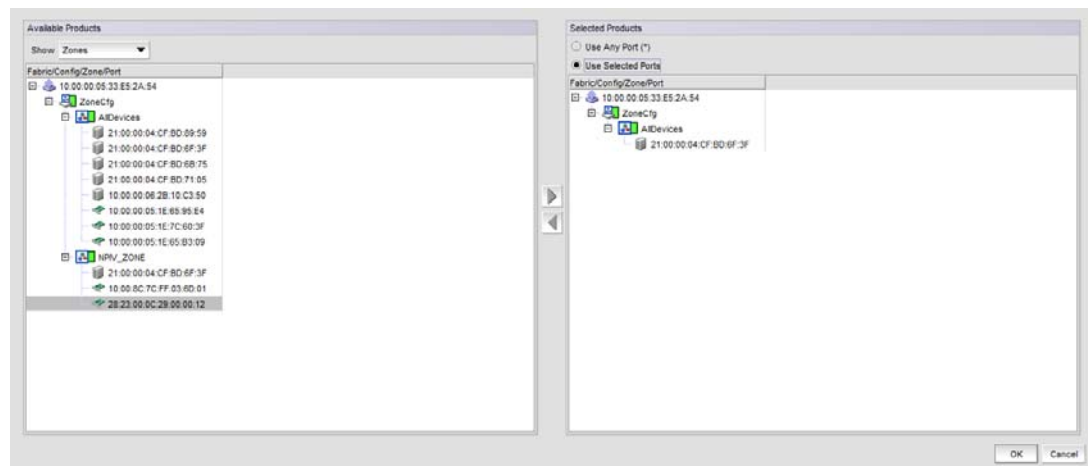

FIGURE 424 Select Device Ports dialog box. (Zones selected)
- Select the ellipses buttons to the right of **Source** and **Destination** fields. Selecting button displays the **Select Device Ports** dialog box (Figure 424).
- Selecting **Zones** from the **Show** list displays available ports under specific zones as shown in Figure 424.